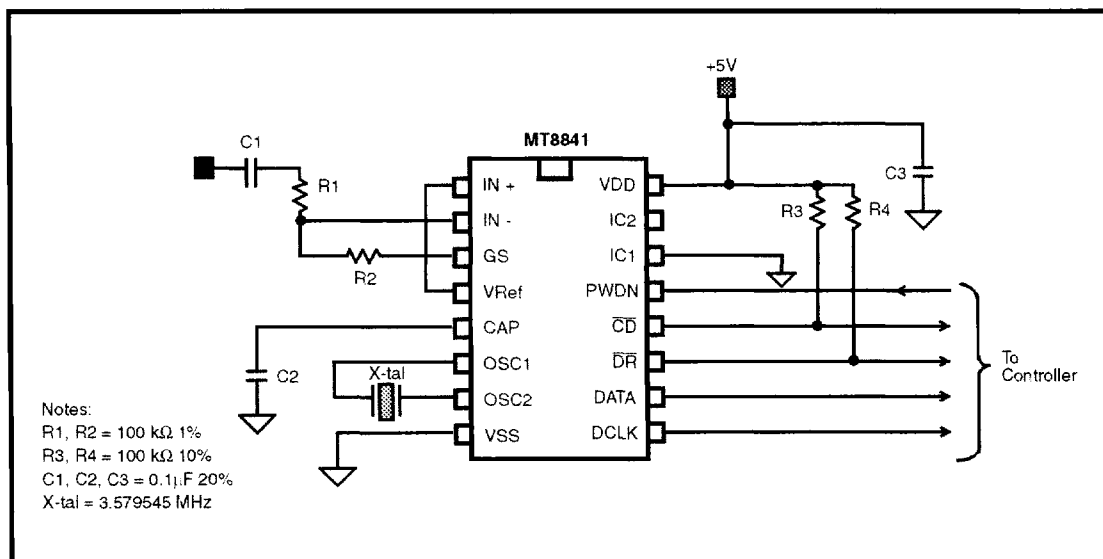

Figure 6 - Application Circuit (Single-Ended Input)
The circuit shown in Figure 6 illustrates the use of the MT8841 device in a typical FSK receiver system. Bellcore Special Report SR-TSV-002476 specifies that the FSK receiver should be able to receive FSK signal levels as follows:
This condition can be attained by choosing suitable values of R1 and R2. The MT8841 configured in a unity gain mode as shown in Fig. 6 meets the above level requirements.
2. Using unity gain test circuit shown in Figure 6.